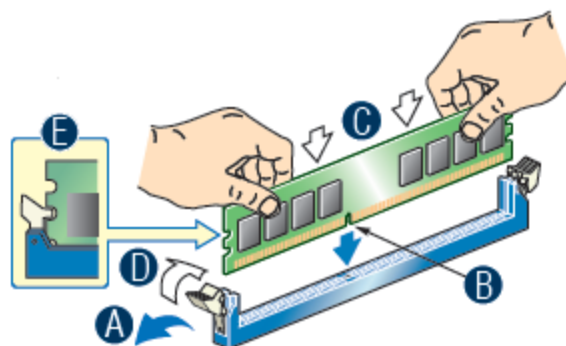

Figure 10. Installing Memory
5. Remove the server's cover and locate the DIMM sockets (see letters “A” to “E” Figure 10).
6. Make sure the clips at either end of the DIMM socket(s) are pushed outward to the open position (see letter “A” in Figure 10).
8. Position the DIMM above the socket. Align the two small notches in the bottom edge of the DIMM with the keys in the socket (letter “B” in Figure 10).
9. Insert the bottom edge of the DIMM into the socket (letter “C” in Figure 10).
10. When the DIMM is inserted, push down on the top edge of the DIMM until the retaining clips snap into place ((letter “D” in Figure 10). Make sure the clips are firmly in place (letter “E” in Figure 10).